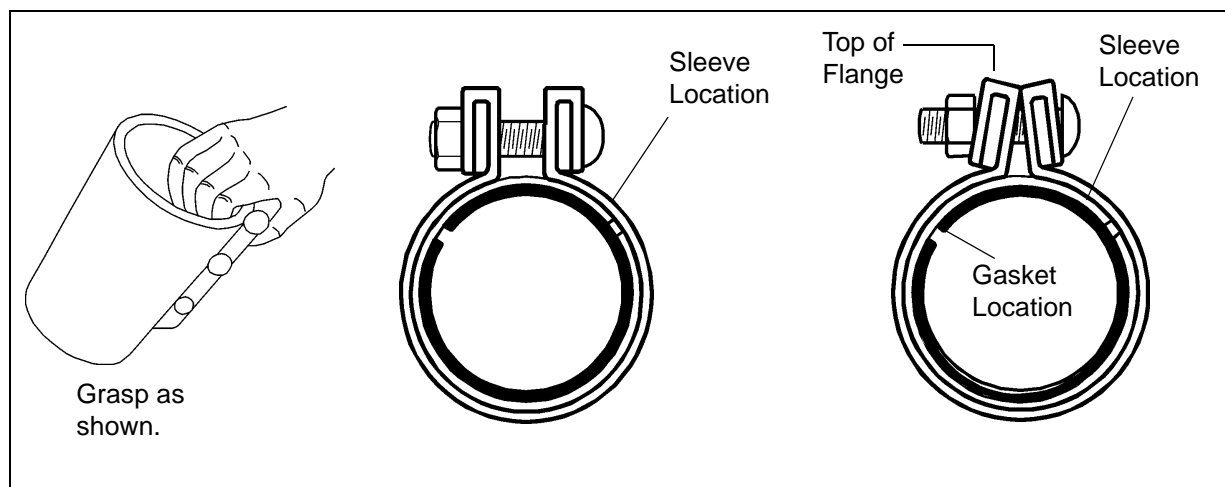

Figure 14A
1. Couplings are shipped ready-to-install... do not disassemble. To prevent gasket from slipping out of proper position, always grasp coupling as shown in *Figure 14A*. This will save time by maintaining proper position of gasket and sleeve in relation to shell and flange.
3. Grasp coupling as shown in *Figure 14A* to keep gasket and sleeve (and gasket protector when used) in separate quadrants, as shown in *Figure 14A*. Be sure gasket teeth mesh and do not overlap.
7. When properly and evenly tightened to the recommended torque the coupling installation is complete. The top edges of the flanges will touch and flanges appear as a vee when viewed from the end, as shown in *Figure 14A*. **DO NOT** attempt tightening bolts to flatten flange faces together, as this exceeds recommended limits.